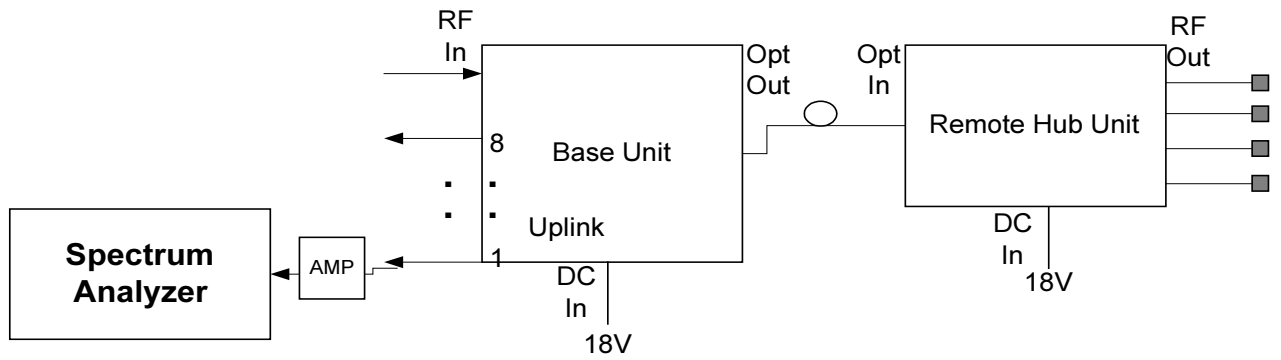

Figure 14 – Uplink Network Test
1. Connect the Spectrum Analyzer to the Base Unit uplink port. Connect 50ohm terminators to the RHU ports, and to all Base Unit uplink ports except for the tested port (see Figure 14).